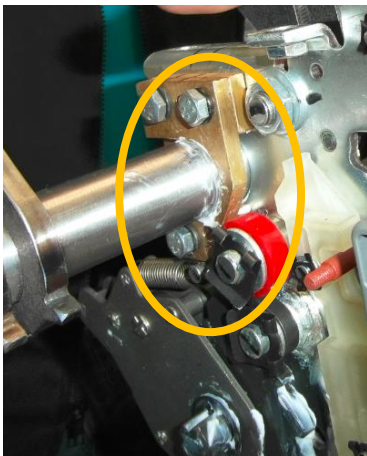
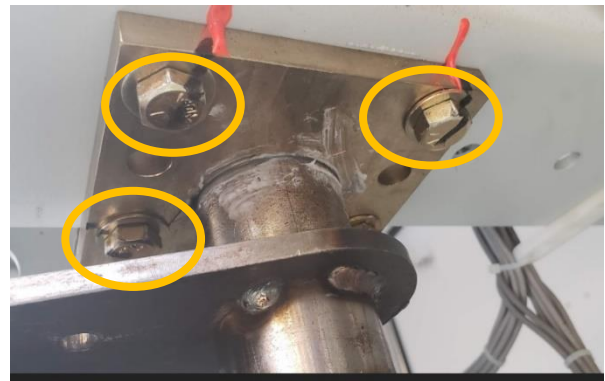

Figure 18 - Mechanism hardware 1
Figure 19 - Mechanism hardware 2
8. Verify torque in all mechanism frame hardware and mechanism fixing hardware, see Figure 18 and Figure 19 for reference. Torque on hardware to be applied as per below: